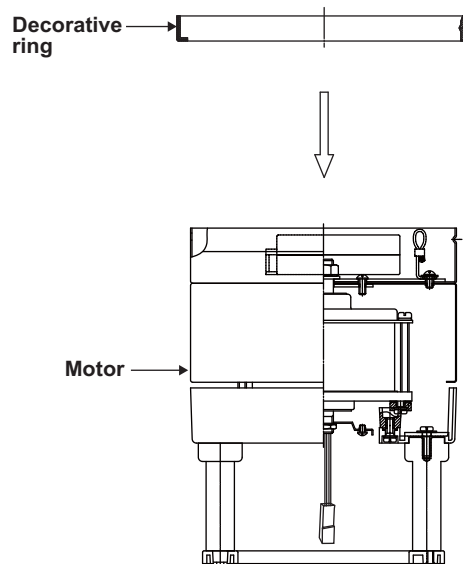

Figure 4
1. Slide the decorative ring down and through the motor. (Fig. 4)